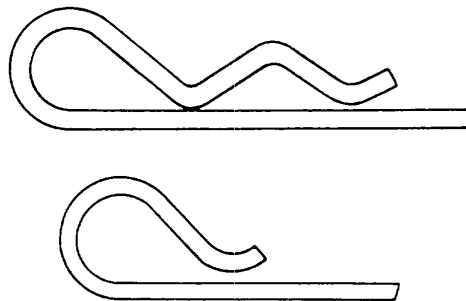

Figure 2-51. Lockpins
e. *Lockpins.* There are two types of lockpins, as shown in figure 2-51. Both are installed by placing straight section of pin in hole of item to be locked and continuing to insert the straight portion of the pin until the curves or spring portion of the pin latches over the item to be safetied. Lockpins are normally used to secure items such as fuel and oil caps.